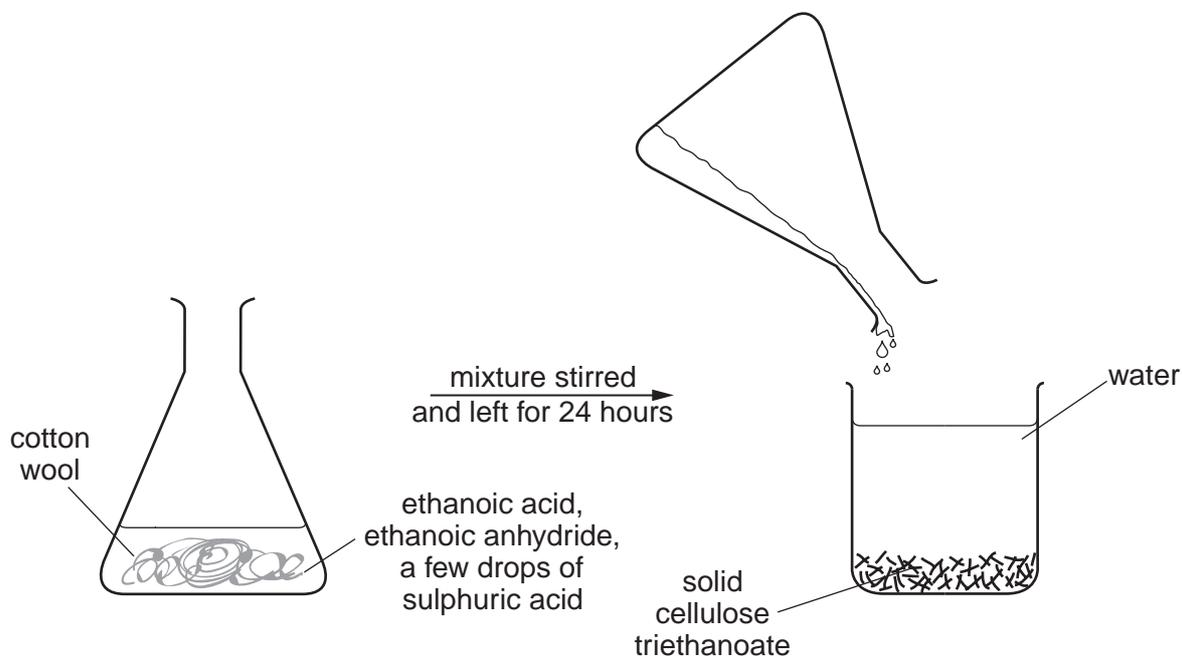

Fig. 3.1
- (a) Cellulose triethanoate (triacetate) is sold as the textile 'Tricel'. It is made by treating cellulose with ethanoic acid and ethanoic anhydride, in the presence of a little concentrated sulphuric acid. The students tried the laboratory method shown in Fig. 3.1 using cotton wool, which is made of cellulose.
- (ii) Suggest how the experiment could be modified if the cellulose triethanoate was not produced, as shown in Fig. 3.1, after 24 hours.